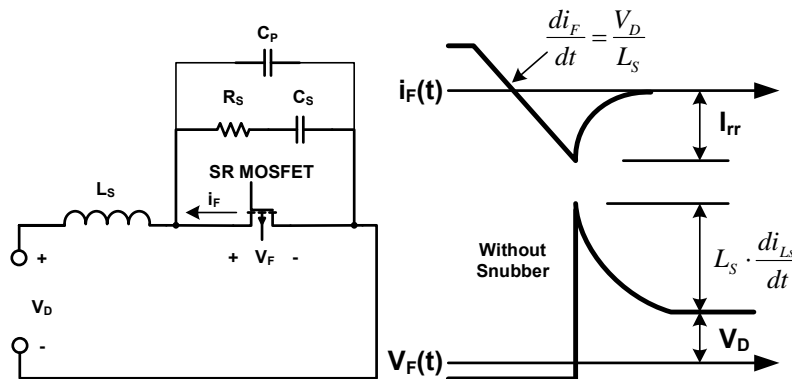
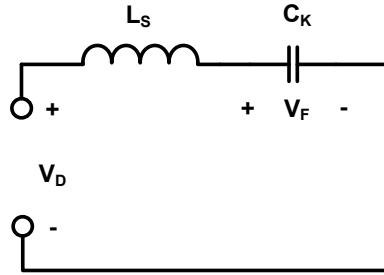

Figure 10 — RC Snubber on SR MOSFET of Flyback Secondary Side
Figure 11 — Simplified Equivalent Circuit for RC Snubber Network ($R_s=0$)
Generally, we need a simple RC snubber network putting in parallel to the drain-source of the SR FET, which is responsible for damping the voltage overshoot lead by reverse current through the SR FET, see figure 10.
Figure 10 shows the equivalent model of the Flyback secondary side circuit with an RC snubber on SR FET, where V_D implies the secondary side voltage derived in equation (3), V_F is the drain-source voltage on SR FET, R_S and C_S forms the RC snubber network while L_S is the leakage inductance of the transformer secondary winding, C_P implies the stray capacitance of the secondary side circuit.
In order to simplify the analysis model of C_S impact on $V_F(t)$, consider R_S as a constant 0, we can get figure 11 and equation (4) as following, where C_K implies " $C_S + C_P$ " in figure 10.
Where I_{rr} is the peak reverse current through the SR MOSFET, which can be also find in figure 10. From (4), the drain-source voltage through the SR MOSFET V_F is as follows: